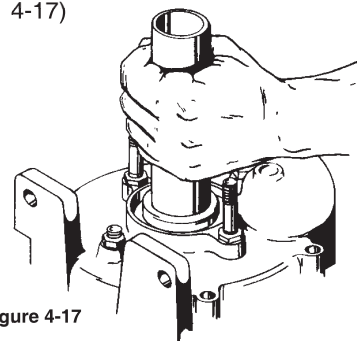

Figure 4-17
26. Install the seal cup with the face of the seal towards the rotating element. A short length of pipe will help to tap the cup down until it contacts the ring.(refer to figure 4-17)